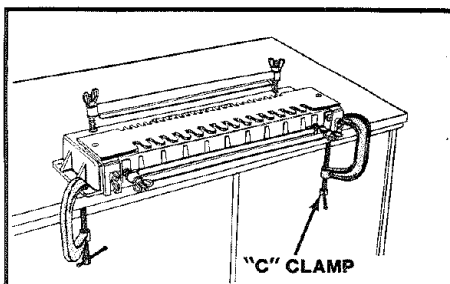

Fig. 5
17. **SECURE** Dovetail Template to a workbench. See *Figures 5 & 6, Page 4.*
FOR SAFE OPERATION AND PROPER CONTROL, YOUR DOVETAIL TEMPLATE MUST BE MOUNTED TO A WORKBENCH OR TABLE. If desired, it can be clamped to a workbench with "C" clamps, or it can be mounted onto a 3/4 inch piece of plywood for mobility. See Figures 5 & 6.
1. Clamp your dovetail template to a workbench or table with "C" clamps as shown in Figure 5. It can then be easily removed upon completion for easy storage or changing job sites.